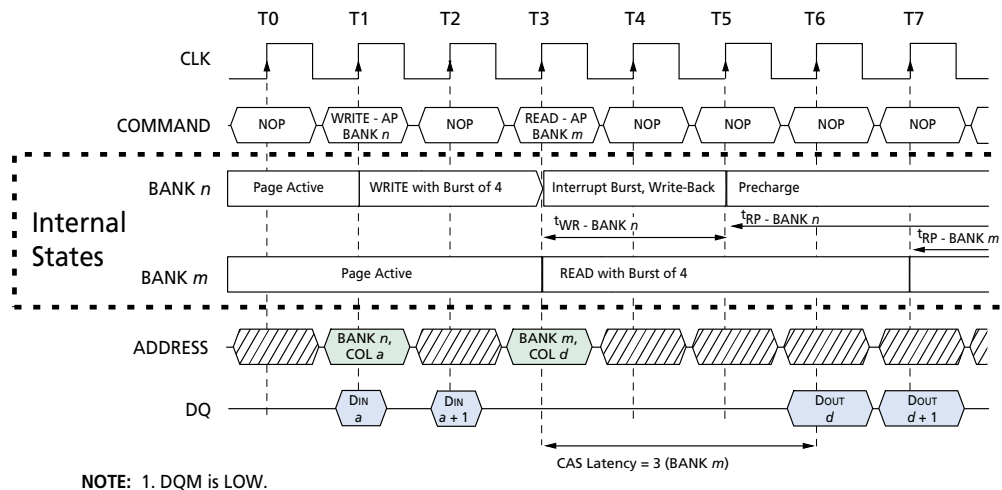

Figure 26
- Interrupted by a READ (with or without AUTO PRECHARGE): A READ to bank m will interrupt a WRITE on bank n when registered, with the data-out appearing CAS latency later. The PRECHARGE to bank n will begin after t_{WR} is met, where t_{WR} begins when the READ to bank m is registered. The last valid WRITE to bank n will be data-in registered one clock prior to the READ to bank m (Figure 26).